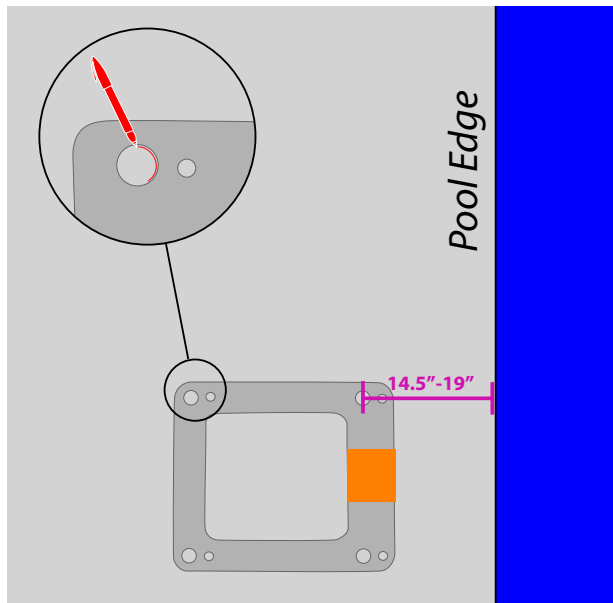

FIGURE 2
1. Mark the 4 hole locations on your deck using the larger holes of the anchor jig plate as a template. Make sure the center of the holes on the anchor jig plate are 14.5 to 19 inches from the pool's edge. *SEE FIGURE 2*